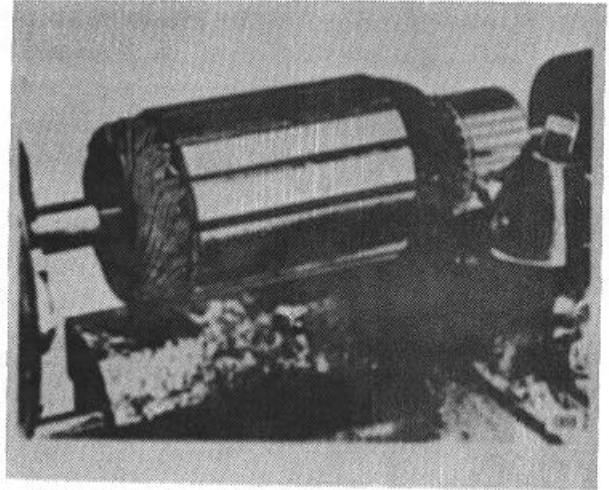

Figure 37
b. Turning Down. Place armature in a lathe and turn down commutator to remove worn spots, out-of-round, or rough condition. Do not cut deeper than necessary to clean up. (Fig. 37)